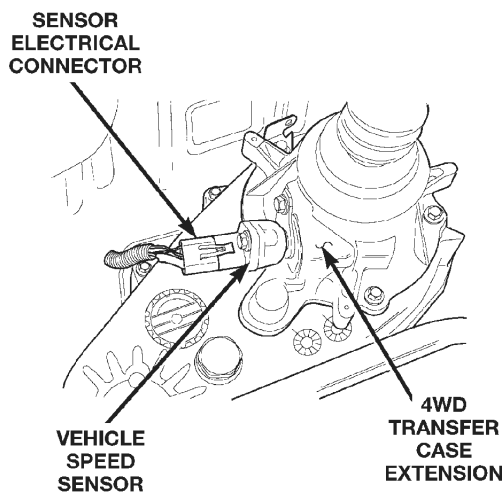

Fig. 25 Vehicle Speed Sensor—Typical
(22) Inspect for pinched or leaking fuel tubes. Inspect for pinched, cracked or leaking fuel hoses.
(23) Inspect for exhaust system restrictions such as pinched exhaust pipes, collapsed muffler or plugged catalytic converter.
(24) If equipped with automatic transmission, verify that electrical harness is firmly connected to park/neutral switch. Refer to Automatic Transmission section of Group 21.
(25) Verify that electrical harness connector is firmly connected to the vehicle speed sensor (Fig. 25).
(26) Verify that fuel pump/gauge sender unit wire connector is firmly connected to harness connector.